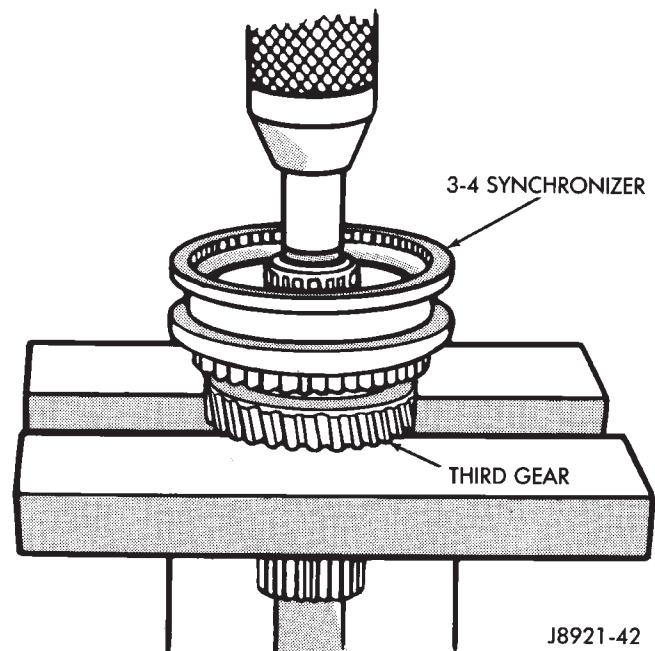

Fig. 117 Remove 3-4 Synchronizer And Third Gear
- (13) Using Bearing Splitter P-334 or suitable press plates positioned under third gear, press the 3-4 synchronizer and third gear from output shaft (Fig. 117).
- (14) Remove third gear needle roller bearing from output shaft or gear.